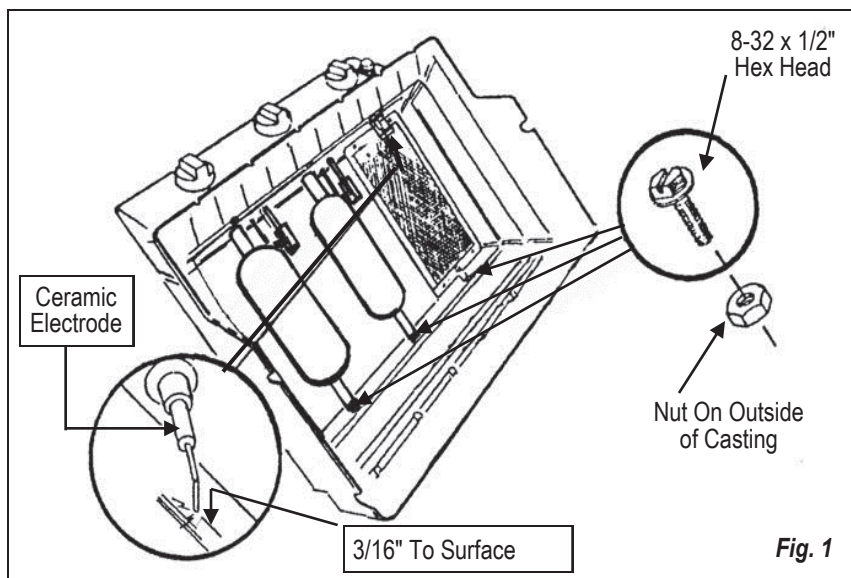

Fig. 1
MOUNTING BRACKET TO GRILL (Fig. 1 and 2)
1. With a slotted screwdriver or 1/4" wrench, remove the rear mounting screw on the back of the burner venturi where it meets the grill head bottom. Use a 11/32" or adjustable wrench on the nut on the outside of the grill head bottom (Fig. 1).
1. With a slotted screwdriver or 1/4" wrench, remove the rear mounting screw on the back of the left and right burner where they meet the grill head bottom. Use a 11/32" or adjustable wrench on the nut on the outside of the grill head bottom (Fig. 1).